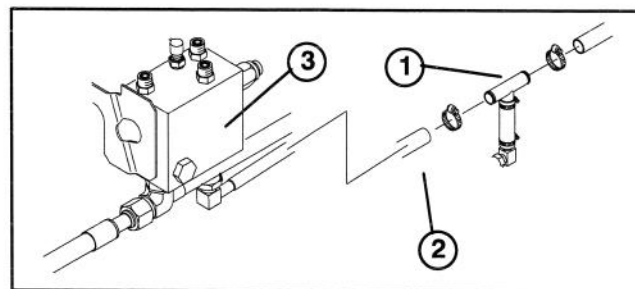

Figure 6
7. Locate and mark where center of filter assembly "T" fitting contacts drained manifold hose (Fig. 6).